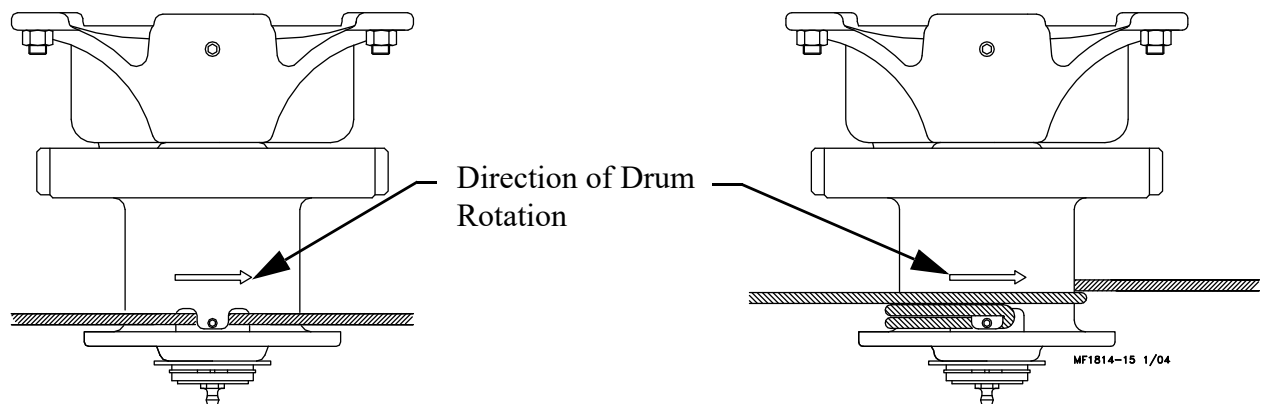

Figure 10. Cable Installation & Wrap
4. Wrap the cable through the winch drum relief located near the bottom of the drum. Tighten the set screw to anchor the cable to the drum, **see figure 10**.
5. Turn the winch drum one full revolution. Guide the cable against the flange at the bottom of the winch drum. The cable must not wrap over itself on the drum, but should be wrapped as close as possible to each previous wrap, **see figure 10**.